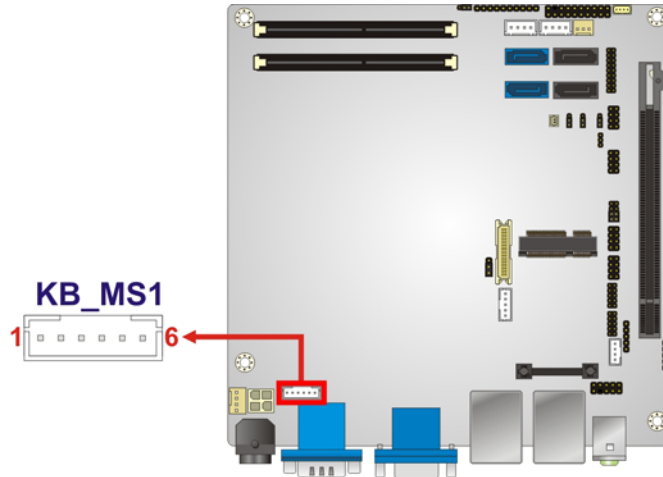

Figure 3-11: Keyboard/Mouse Connector Location
- CN Location:** See **Figure 3-11**